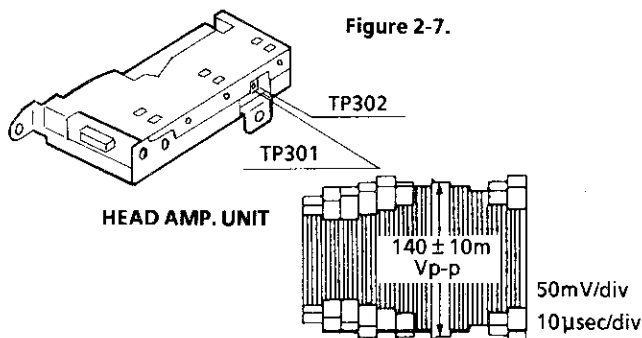

Figure.2-8.
4. Adjust R208 (recording Y control) so that the sync tip be $140 \pm 10\text{mVp-p}$ as shown in Figure 2-8.